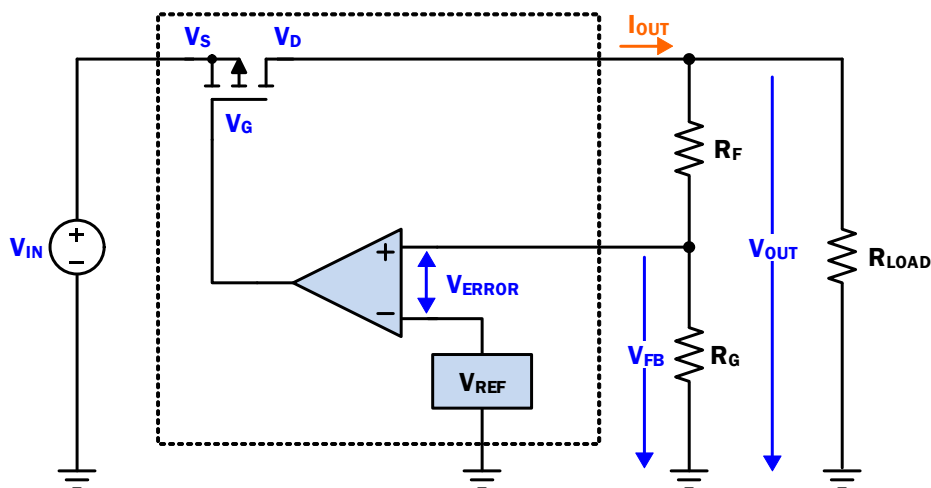

Figure 136. Simple PMOS LDO Regulator Block Diagram
Like the majority of LDOs with a PMOS pass transistor, the RAA214020 DC output voltage ( $V_{OUT}$ ) regulation can be modeled with a voltage reference ( $V_{REF}$ ), PMOS pass-transistor, error amplifier and feedback (FB) resistors as shown in Figure 136.